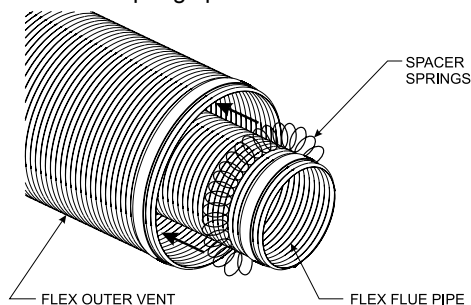
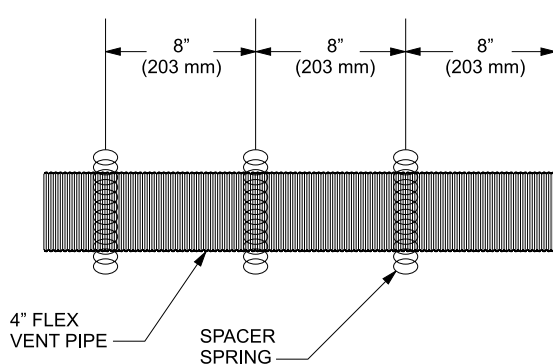

Figure 52
Figure 53
2. Check to see that the vent spacer springs are located around the flue vent at 8" intervals along its length. **See Figure 53.** If not, stretch the spacer springs to about 15" long and wrap them around the flue, then interlock the ends of each spring about 2". **See Figure 52.** Maintain equal distance between spring spacers.